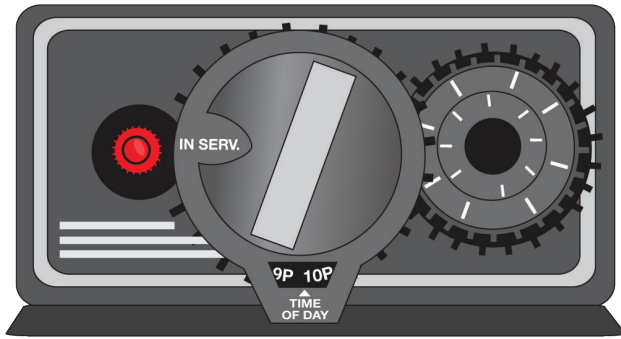

Figure 9 - Filter **IN SERVICE** position
7. After the manual rinse cycle has been completed, turn the main dial on the filter unit to the **IN SERVICE** position [**See Page 15, Figure 9**]. Make sure the control lever is fully in the **IN SERVICE** position. Now, put the ScaleSolver outlet in the **IN SERVICE** position. Water will now be flowing through the whole Premier PowerPac to feed the house. **Remember to set the timer for self-cleaning to the current time of day.**